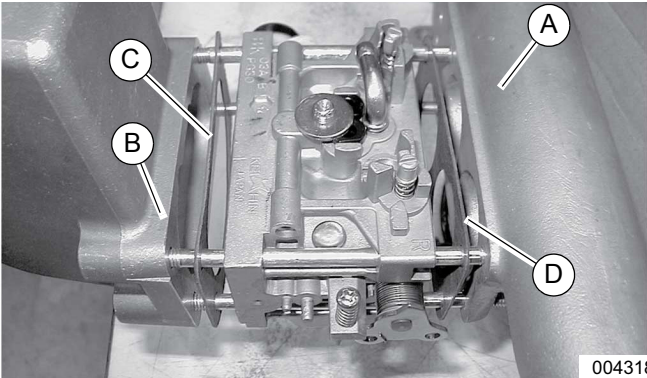

Figure 5-7. Carburetor Installation—Vertical Shaft
- 1. See Figure 5-7. Slide new carburetor gasket (D) and carburetor onto studs.